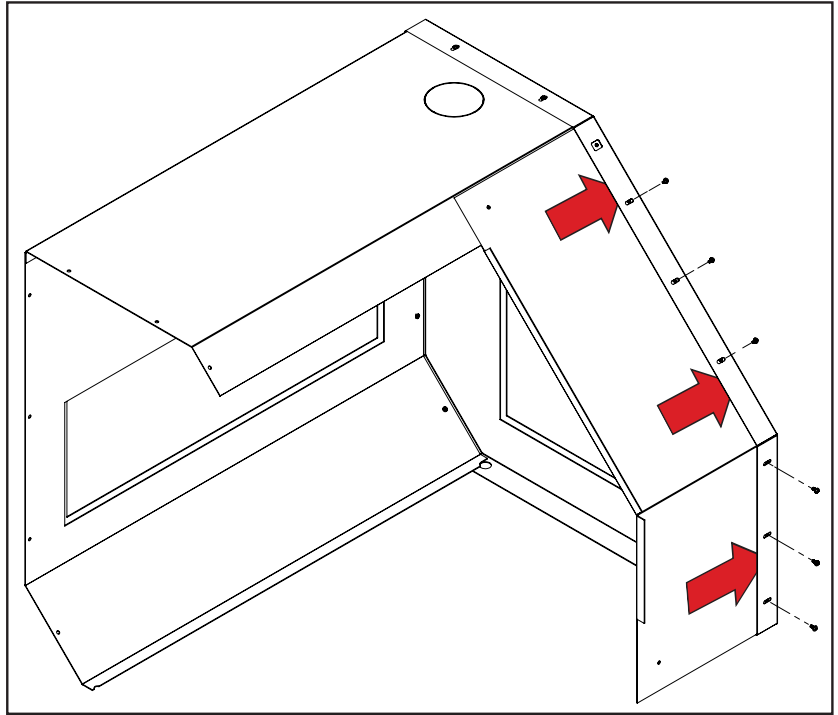

Figure 6
4. Slide the Front Right Panel under the lip of the Right Side Panel and over the Top Panel; secure with six 10-32 $\times$ 3/8" Pan Head Screws (see **Figure 6**).